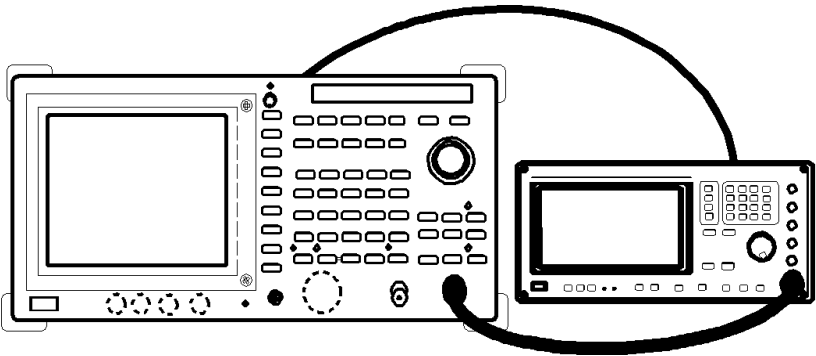

Figure 1-3 Setup for Measuring a Frequency Readout Accuracy and Frequency Counter
1. Connect the signal generator as shown in Figure 1-3.